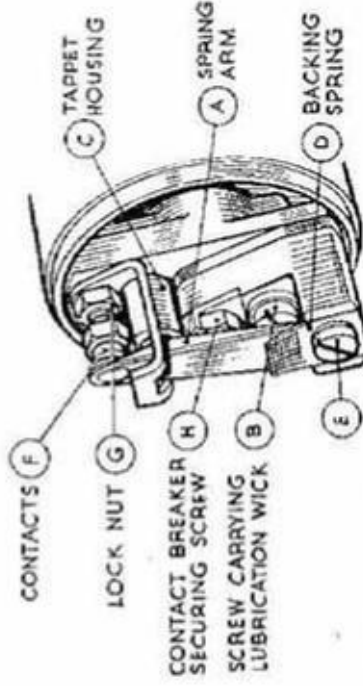

FIG. 23. FACE CAM CONTACT-BREAKER OF LUCAS MAGNETO SHOWN ASSEMBLED
Lubricating Lucas Contact-breaker. The cam and tappet of the face-cam type contact-breaker (Fig. 23) require lubrication
First release the spring blade and take off the contact-breaker cover. Now, referring to Figs 23 and 24, remove the screw (E) and the spring washer retaining the spring arm (A) to the body (L) of the contact-breaker, and detach the curved backing spring (D) and the spring arm (A). Next unscrew the screw (B) carrying the lubrication wick, and remove the insulating bush (fibre). Straighten the tab on the locking plate (J) situated behind the head of the contact-breaker securing screw (H), and with the spanner shown at (11) in Fig. 54 remove screw (H). Then lever off the contact-breaker body (L) from the armature shaft extension.
The same contact-breaker is shown assembled in Fig. 23.